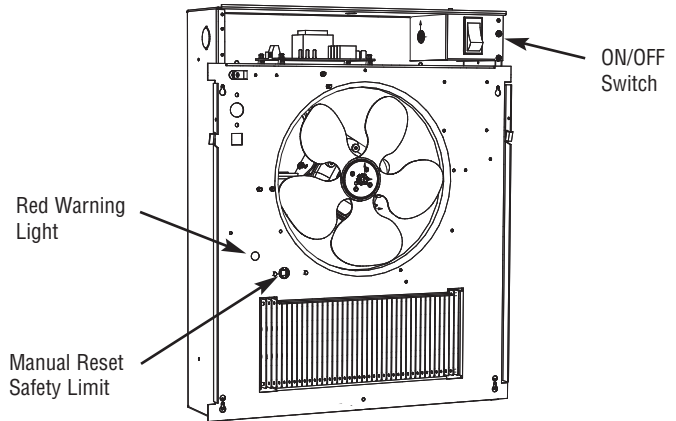

Figure 8 Reset Button Location
This heater is equipped with a manual-reset safety limit control that will automatically turn off the heater if it overheats to prevent a fire. A red warning light will illuminate (visible through the grille) to alert that this control has activated. See Figure 8 for the location of these devices.
#### TO RESET SAFETY LIMIT (SEE FIGURE 8)
**NOTE:** With grille removed, the ON/OFF switch located in upper right corner of heater may be used to turn off power to heater during cleaning and servicing (see Figure 8).